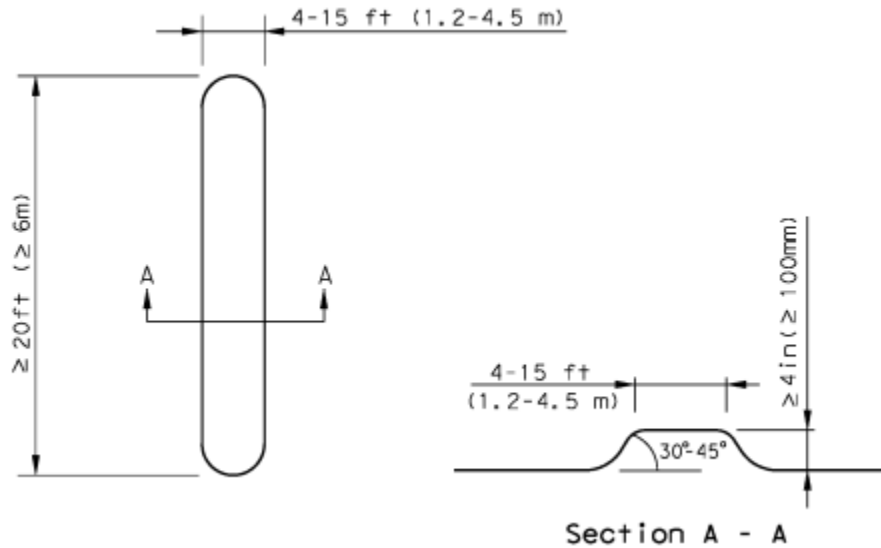

Figure C-7. Illustration of Slightly Raised Divider
(1)For Rural - Rounded edges, 30° to 45° slope. (See Figure C-7)
Figure C-7 illustrates a slightly raised divider (height 4 inches [100 mm]).